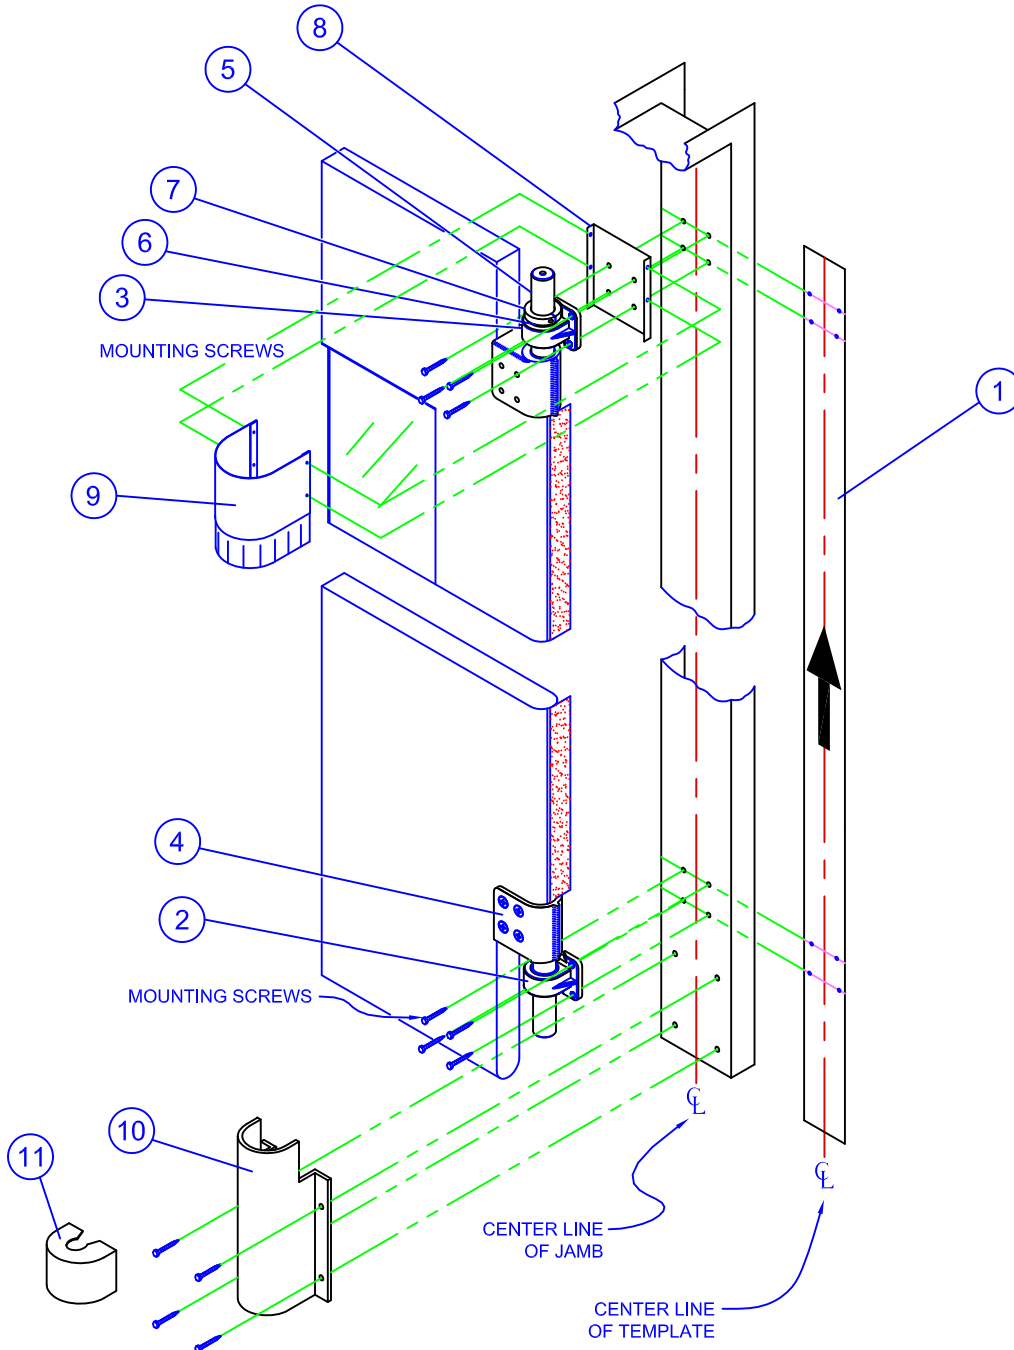

Figure 1
NOTE: PROCEED ONLY AFTER COMPLETING THE "PREPARATION" SECTION AT LEFT. ESTABLISH THE CENTERLINE OF JAMB. PLACE TEMPLATE ① ON THE INSIDE FACE OF JAMB WITH BOTTOM OF TEMPLATE TOUCHING FINISHED FLOOR OR SILL. LINE UP CENTERLINE ON TEMPLATE WITH CENTERLINE OF JAMB (Refer to Figure 1).